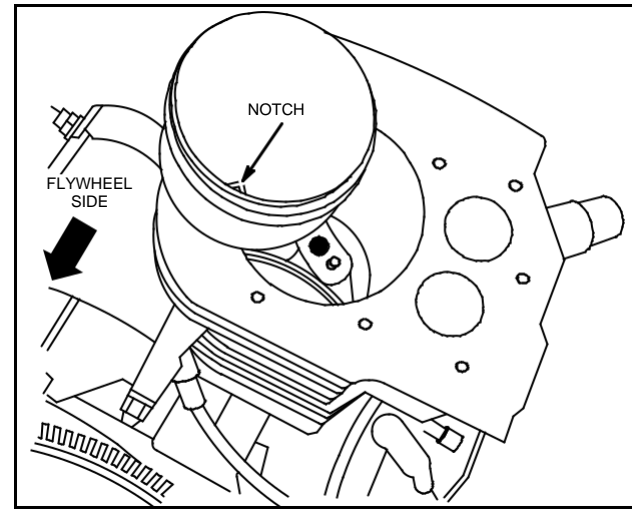

Fig. 4 – Install Piston And Connecting Rod
3. Install #1 piston with notch on piston toward flywheel side, Fig. 4.